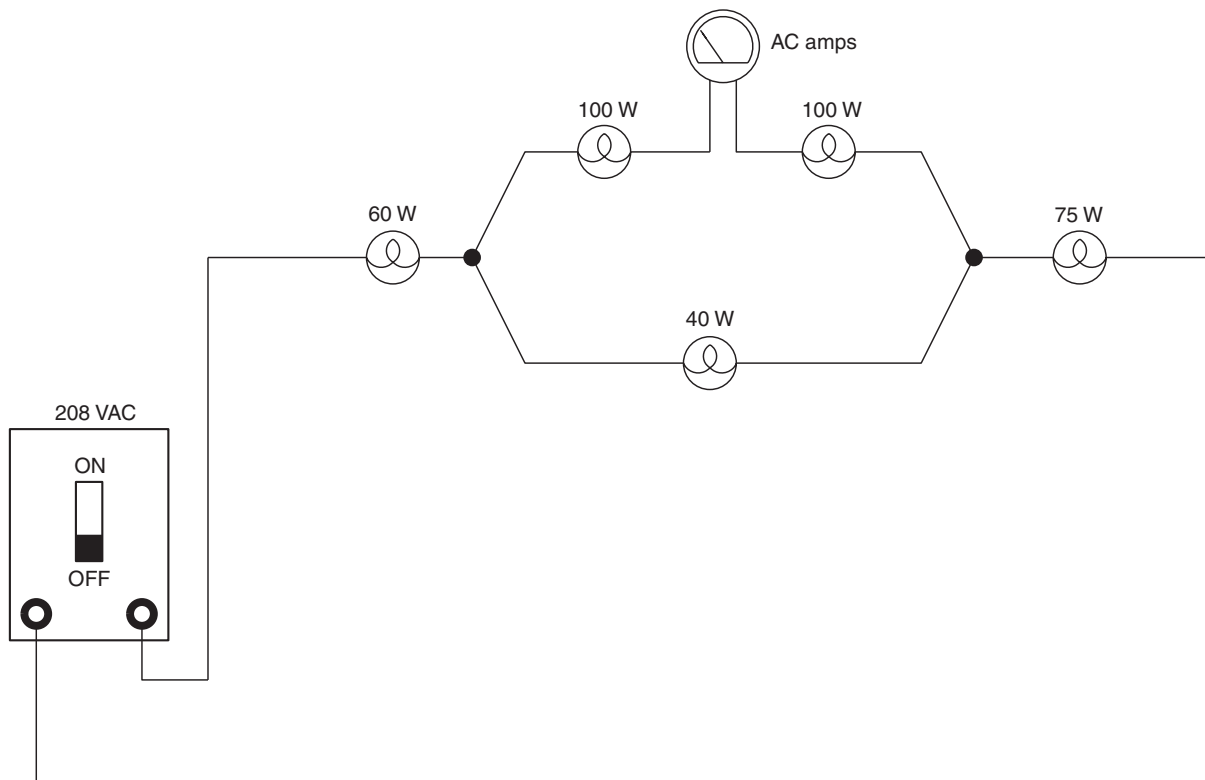

Figure 5-16 Measuring current through the 100 watt lamps.
8. Reconnect the AC ammeter to measure the amount of current flow through the two 100 watt lamps in Figure 5-16. After the ammeter connection has been made, turn on the power and measure the current.